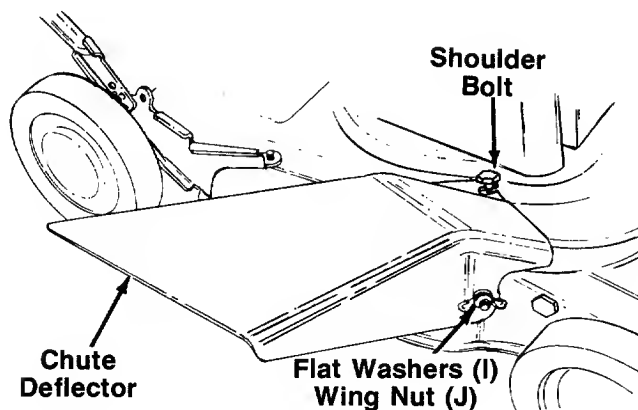

FIGURE 12.
2. Secure the front of the deflector to the bolt protruding from the deck with one flat washer (I) and wing nut (J). See figure 12.